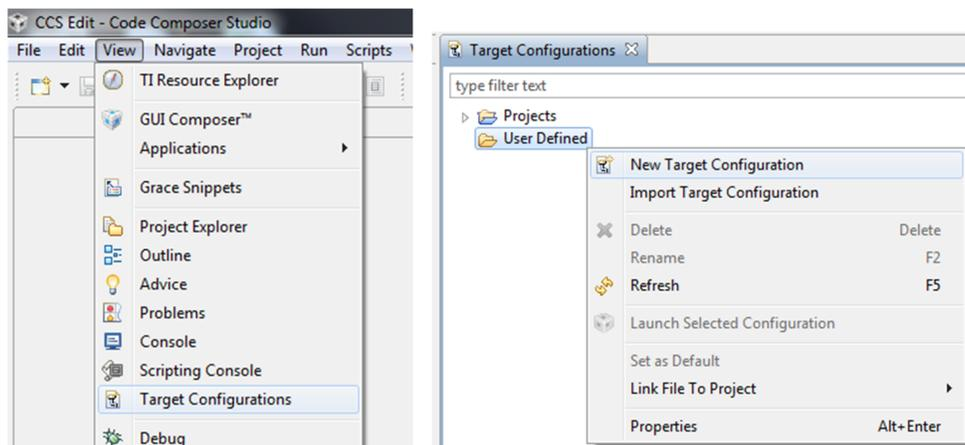

Figure 6. Target Configuration
- Select **View -> Target Configuration** (Figure 6)
- Right click on the **User Defined** folder and select **New Target Configuration** (Figure 6)